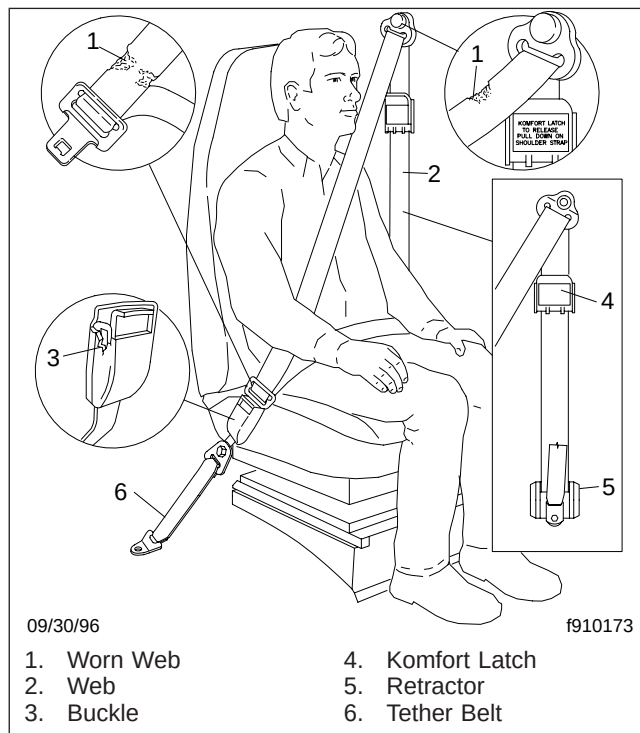

Fig. 11.4, Seat Belt Inspecting
29. Inspect the seat belts and tether belts, if equipped. See **Fig. 11.4**.